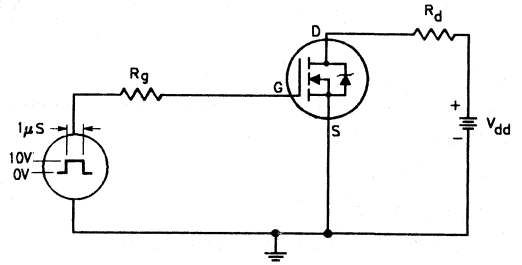

Figure 14 - Switching time test circuit.
(See Figure 14)
2. $V_{DD} = 25\text{V}$, Start $T_J = +25^\circ\text{C}$, $L = 770\mu\text{H}$, $R_G = 25\Omega$, Peak $I_L = 8.4\text{A}$ (See Figures 14 and 15)